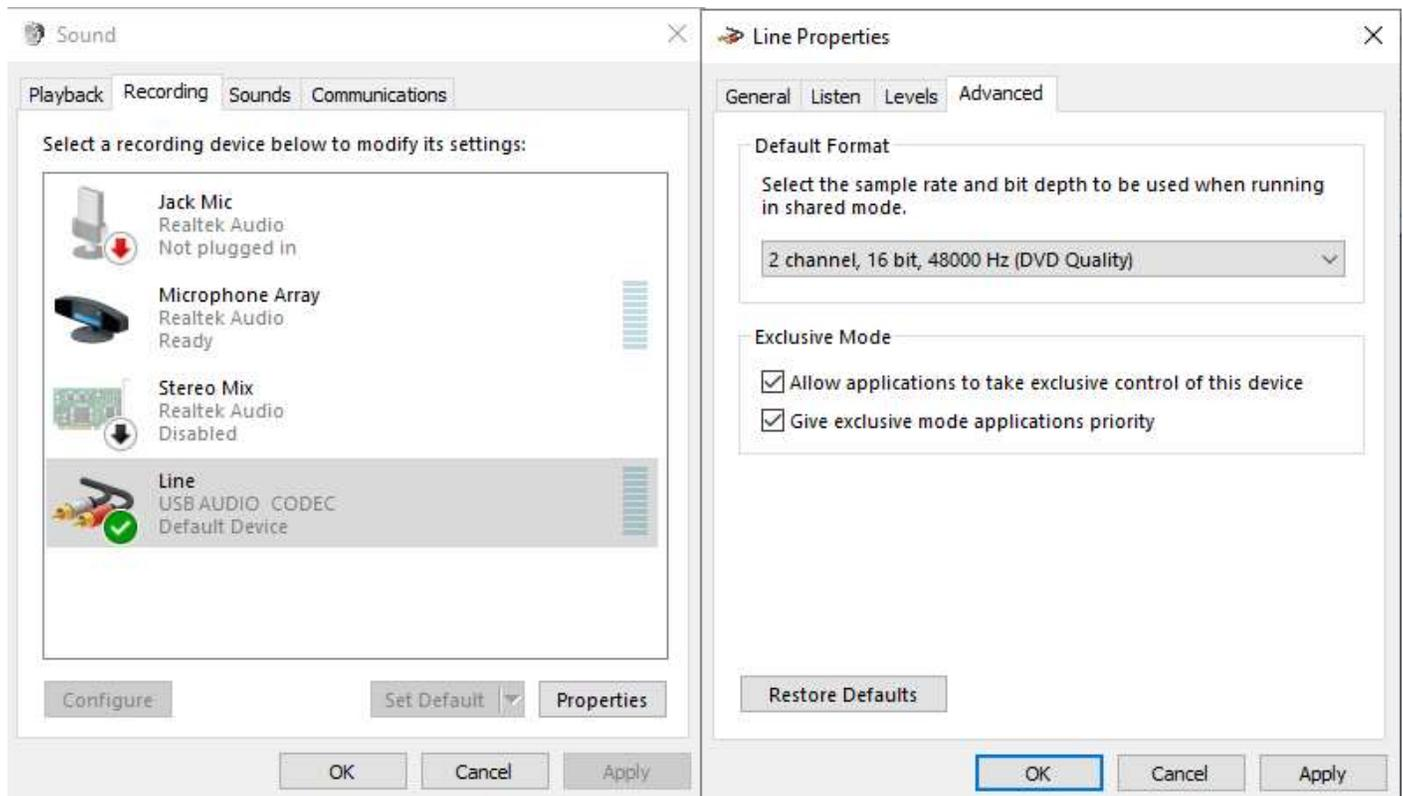

Figure 5. Windows Sound Settings
- 3) Under the 'Advanced' tab, select 2 channel, 16 bit, 48000 Hz (DVD Quality) and hit 'Apply', shown in **Figure 5**